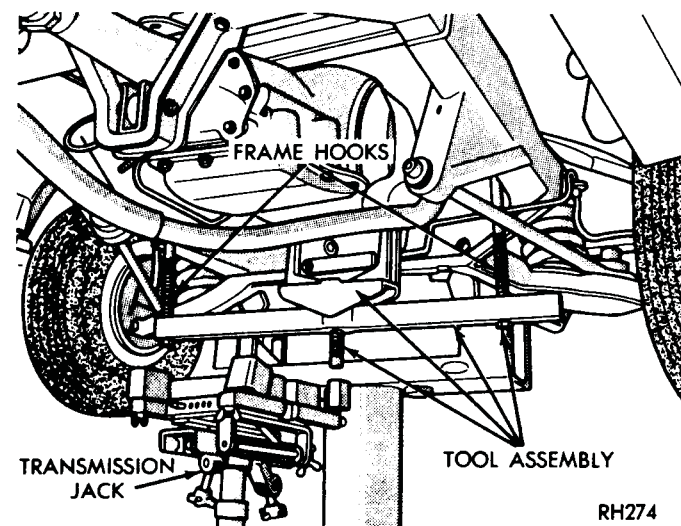

Fig. 1—Engine Support Fixture (Typical)
(15) Disconnect throttle rod from lever at the left side of transmission. Remove linkage bellcrank from transmission, if so equipped.
(16) Remove oil filler tube and speedometer cable.
(17) Install engine support fixture, Tool C-3487-A with frame hooks or a suitable substitute, that will support rear of the engine (Fig. 1).
(18) Raise transmission slightly with service jack to relieve load on the supports.
(19) Remove bolts securing transmission mount to crossmember and crossmember to frame, then remove crossmember.
(20) Remove all bell housing bolts.
(21) Carefully work transmission and torque converter assembly rearward off engine block dowels and disengage torque converter hub from end of crankshaft. **Attach a small "C" clamp to edge of bell housing to hold torque converter in place during transmission removal.**
(22) Lower transmission and remove assembly from under the vehicle.
(23) To remove torque converter assembly; remove "C" clamp from edge of bell housing, then carefully slide assembly out of the transmission.